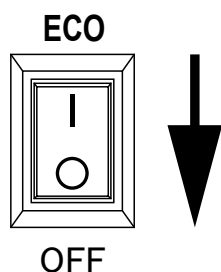

Figure 19. ECO Mode Switch
4. Turn the ECO Mode Switch to the OFF position (Figure 19).